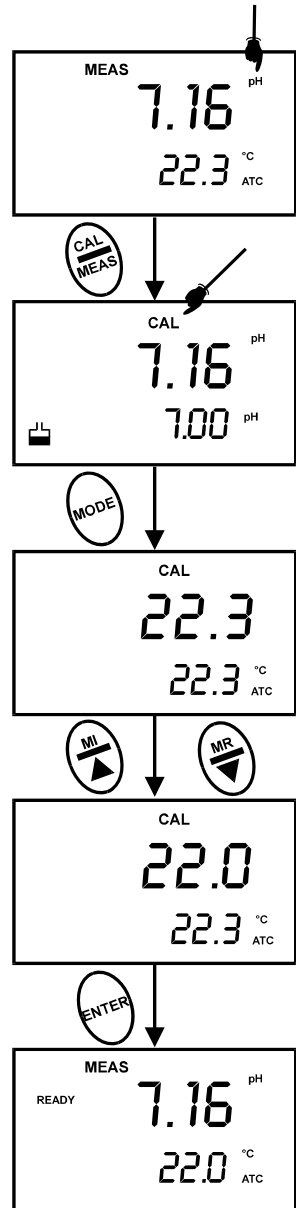

Figure 12 - Temperature calibration
20. Once you have selected the correct temperature, press the ENTER key. The meter automatically returns to pH measurement mode. See Figure 12.